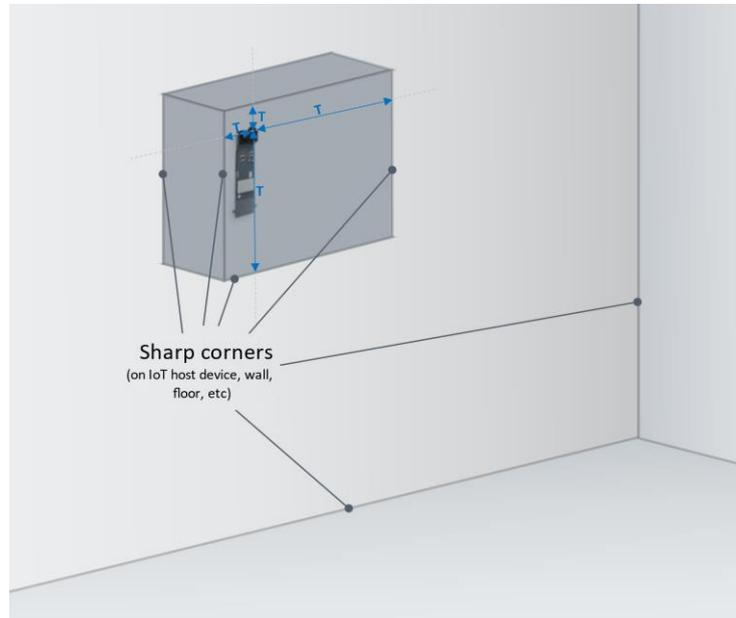

Figure 9: Placement of BMV080 away from sharp edges
- Sensor location in the host system: place the BMV080 minimum 17 mm ($T > 17\text{mm}$) away from sharp edges to avoid turbulent air flows that could affect the sensor performance, see Figure 9.